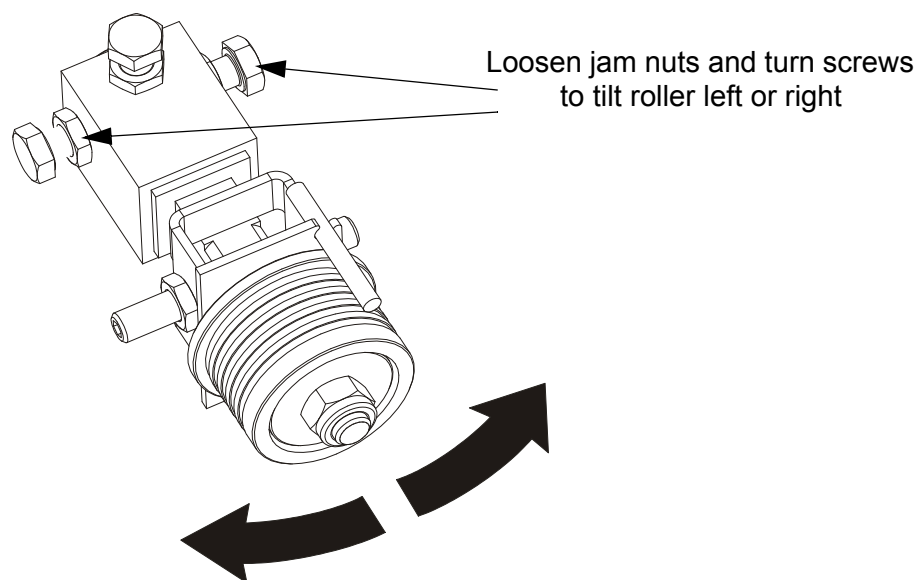

FIG. 5-28
**See Figure 5-28.** Loosen the jam nuts on the left and right horizontal tilt adjustment screws. To tilt the roller left, loosen the right screw and tighten the left screw. To tilt the roller right, loosen the left screw and tighten the right screw. Tighten the jam nuts and recheck the tilt of the blade.